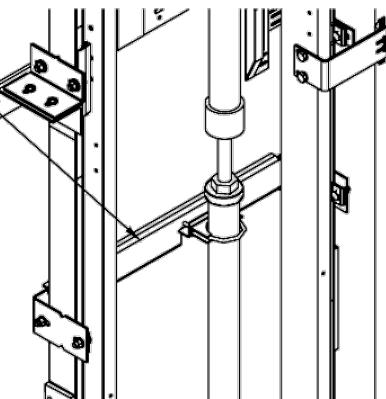

Figure 26 Jack Bracket Upstand
- 3) Mount the jack unit on top of the upstand post ensuring the male end of the jack's base fits the female socket on the top of the upstand. Secure the top of the jack unit to the rail using the jack bracket supplied (Figure 26 and 27). Do not tighten at this time.